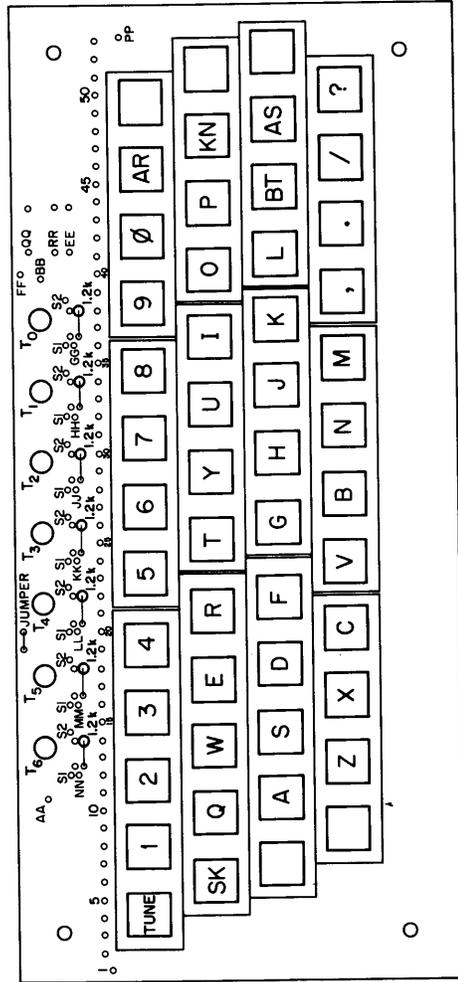

Figure 5.2 Keyswitch Circuit Board
Referring again to the parts list, sort out those components designated by a "K". These are the parts needed to construct the keyswitch circuit board. Figure 5.2 shows the location of the parts on the board. To install them, follow these steps:
10. Next to each toroid are two holes, designated S1 and S2 in Figure 5.2. A secondary coil is wound on each toroid and connected to these holes.
11. Next mount the keyswitches. Note that some of the modules contain five switches while others contain four. Figure 5.2 shows how the modules should be arranged on the board.
Mount the remaining switch modules, one at a time, referring to Figure 5.2 for proper positioning. When all modules are mounted, solder all pins to the circuit board.
Install the keytops on the switches in the positions shown in Figure 5.2. Some keytops require stick-on labels. Apply the labels to the proper keys as shown in the figure.